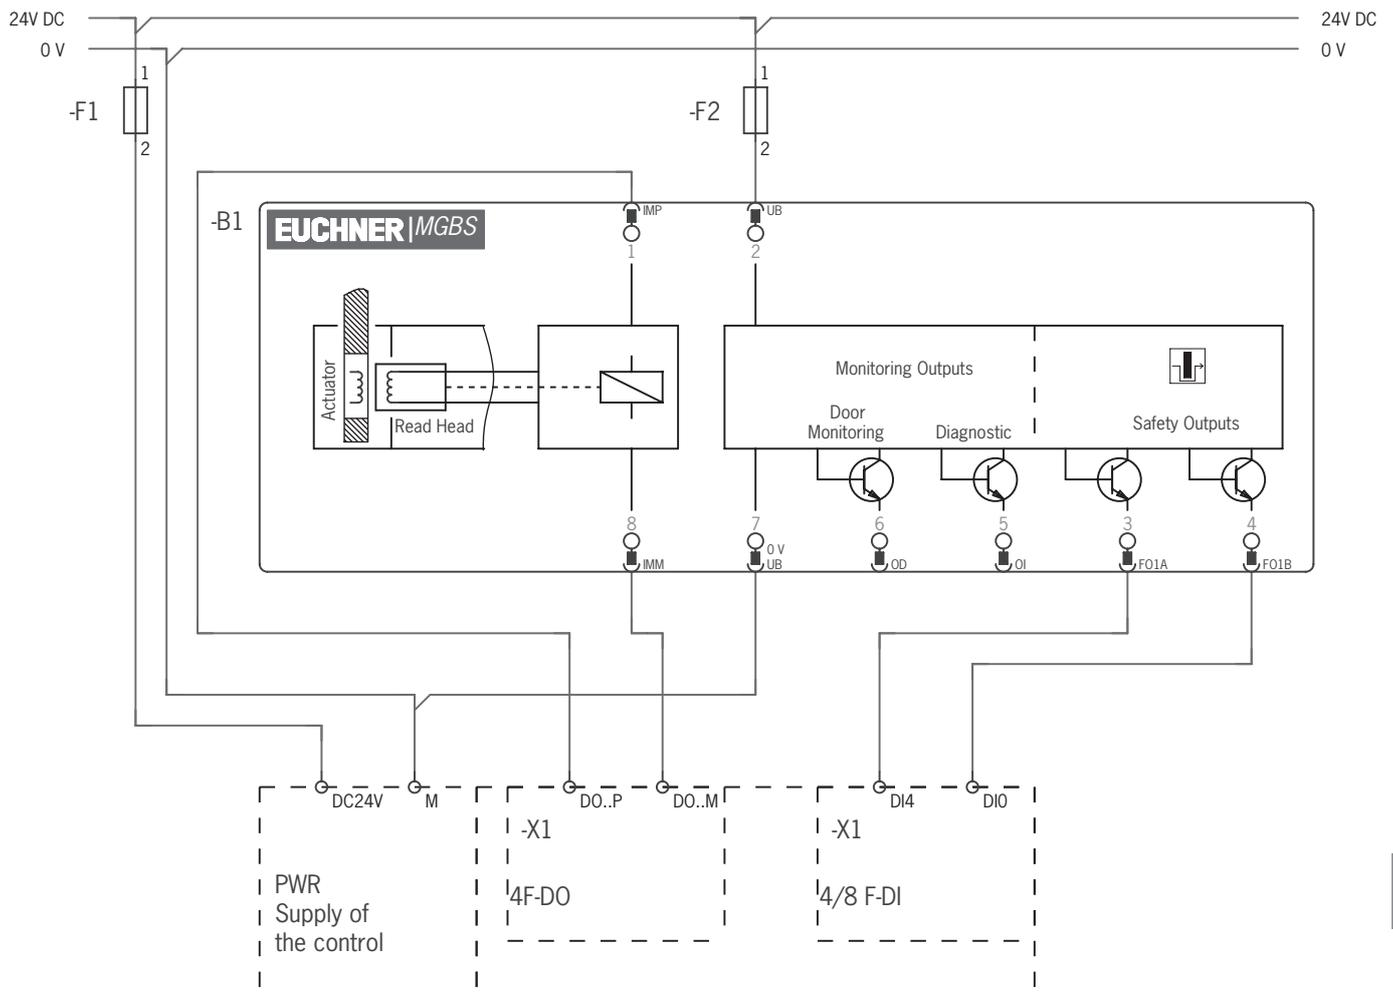

Fig. 5: Connection example for the connection to ET200
- The safety outputs (F) (F01A and F01B) can be connected to the safe inputs of a control system. Prerequisite: the input must be suitable for pulsed safety signals (OSSD signals, e.g. from light grids). The control system must tolerate test pulses on the input signals. This normally can be set up by parameter assignment in the control system. Observe the notes of the control system manufacturer. For the pulse duration of your safety switch, please refer to chapter 14. *Technical data on page 30.*
- For dual-channel control of the solenoid voltage by safe outputs of a control system, the following points must be observed (see also Fig. 5 on page 25):